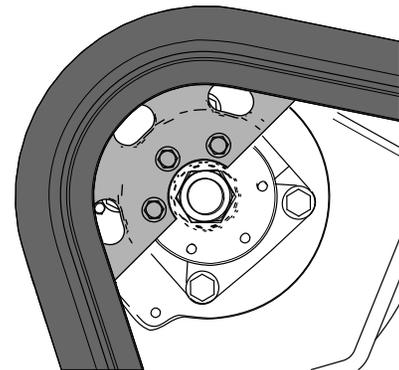

Figure 64
- Move the traction control forward until the drive sprocket half engages with the track (Figure 64).